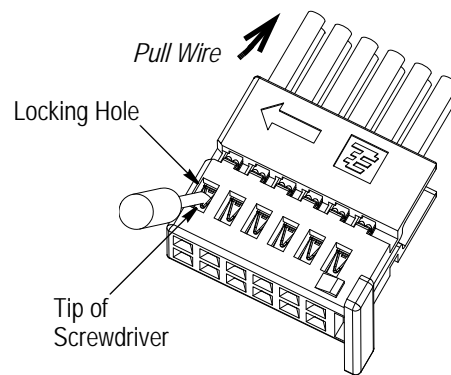

Figure 7
1. Insert the tip (minimum width of 4 mm) of a screwdriver into the locking hole of the contact to be removed. Simultaneously depress the locking lance and pull the wire until the contact is free. See Figure 7.
Insert the tip (minimum width of 4 mm) of a screwdriver into the locking hole of the contact to be removed. Simultaneously depress the locking lance and pull the wire until the contact is free. See Figure 7.